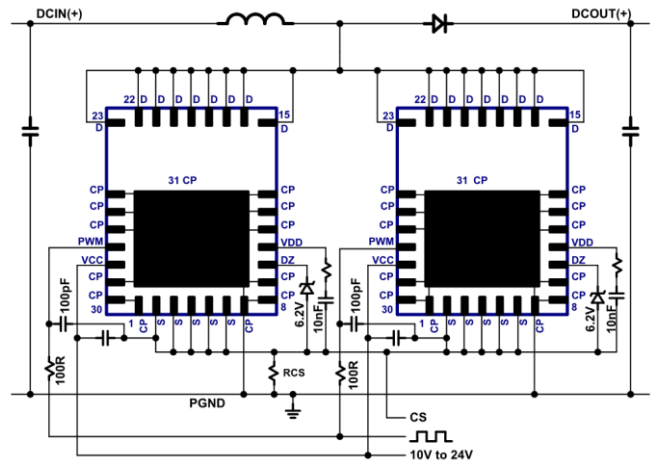

Fig. 25. Boost schematic using two parallel ICs
For some applications it is desirable to parallel ICs in order to reduce conduction losses and temperatures. Two GaNFast power ICs can be connected in parallel in a PFC boost application working in boundary-conduction mode (BCM) only. The parallel configuration for two GaNFast power ICs is shown in Fig. 25. The paired pins that are connected together include the drain pins (D), the source pins (S), the V_{CC} pins, the PWM pins, and the D_Z . A single D_Z diode can be shared by both ICs. The V_{DD} pins are not connected together and require separate V_{DD} supply capacitors (C_{VDD1} , C_{VDD2}) and separate turn-on current set resistors (R_{DD1} , R_{DD2}). Each IC should have its own local V_{CC} supply filter capacitor (C_{VCC1} , C_{VCC2}). The PWM pins can have a single filter resistor (R_{PWM}) but separate filter capacitors (C_{PWM1} , C_{PWM2}) should be placed at the PWM pin of each IC. When designing the PCB layout for the two paralleled ICs, the drain and source connections should be made as symmetrical as possible to avoid any parasitic inductance or capacitance mismatch.